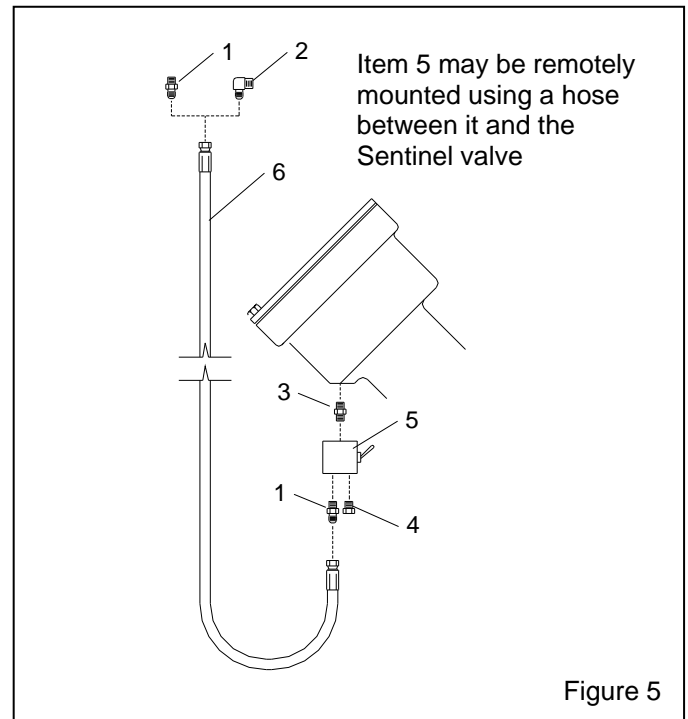

Figure 5
**6.2 Accessories for Use with Non-Clemco Remote Control Applications, Figure 5**